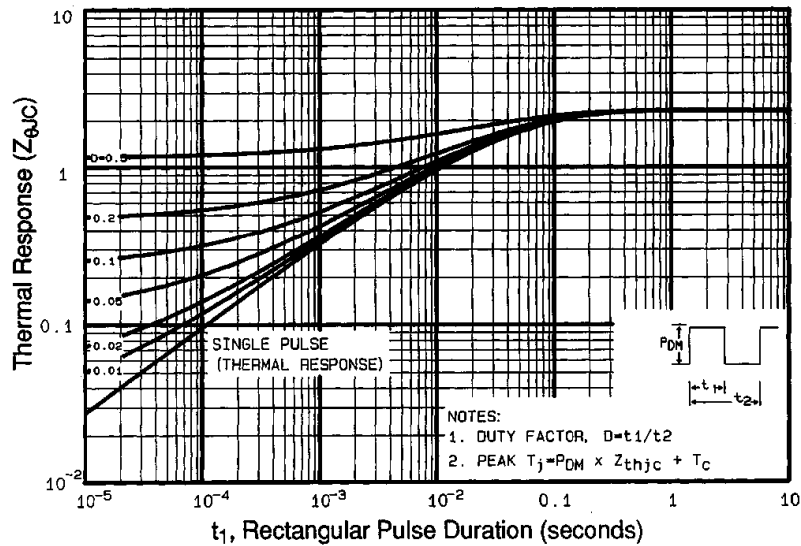

Fig 11. Maximum Effective Transient Thermal Impedance, Junction-to-Case
- ① Repetitive rating; pulse width limited by max. junction temperature (See Figure 11)
- ② $V_{DD}=50V$, starting $T_J=25^\circ\text{C}$, $L=117\text{mH}$